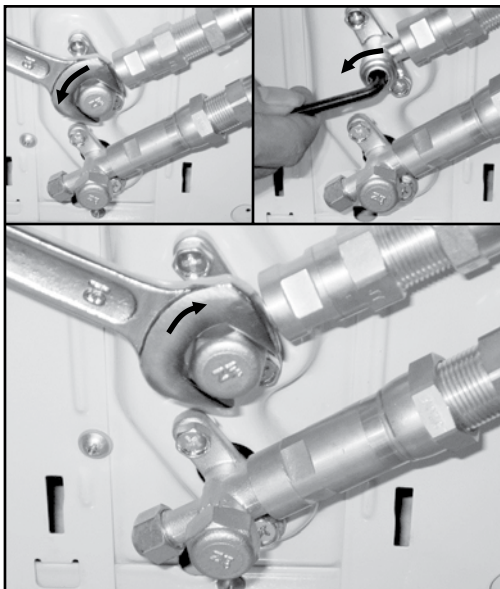

FIG. 6.5
- Now remove the cover on the top valve using a 19 mm open-ended wrench. Open the valve by turning it counter-clockwise as far as it will go using a 5 mm Allen key. The valve is now open. If the valve is not opened fully, the system may malfunction and suffer damage. Screw the cover back on to the top valve and tighten it well to ensure that it is properly sealed. See Fig.6.5.